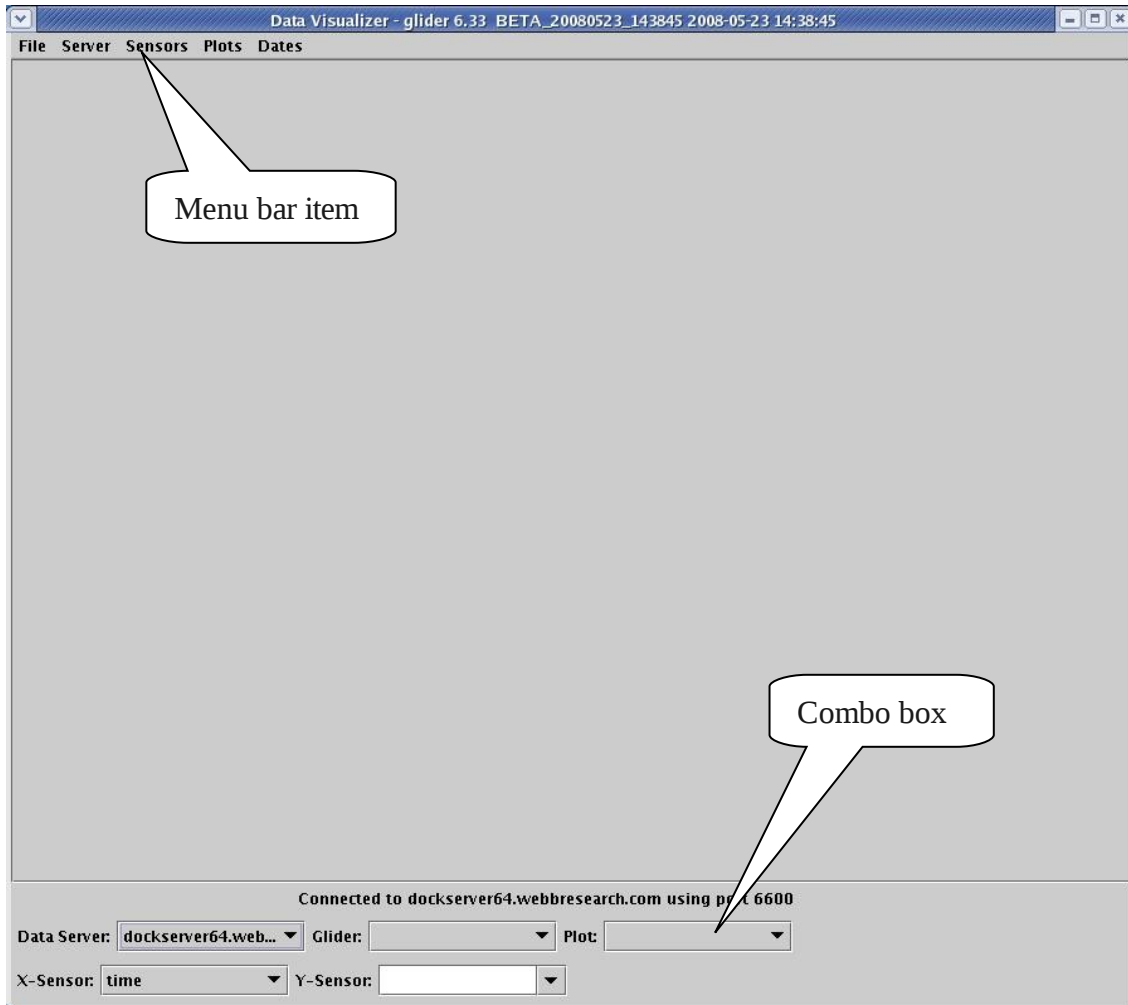

Figure 8-1. Data Visualizer Main Window.
1. Double click the desktop icon labeled “Data Visualizer” or select the item labeled “Data Visualizer” from the “All Programs” menu (Windows XP). The Data Visualizer window should appear (Figure 8-1).
When launched for the first time, Data Visualizer attempts to connect to the machine from which it was Web Started. For example, Figure 8-1 shows a Data Visualizer connected to dockserver64.webbresearch.com. When further launched, Data Visualizer attempts to connect to the machine last selected for connection.
The Data Visualizer user interface (shown without displayed data in Figure 8-1) relies on the following controls and output: